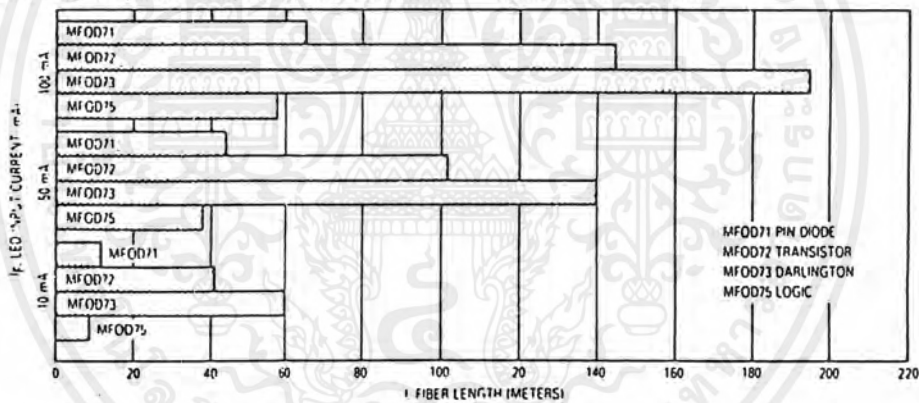

Figure 9. MFOE76 Working Distances
- Very Simple Fiber Termination and Connection. See Figure 9